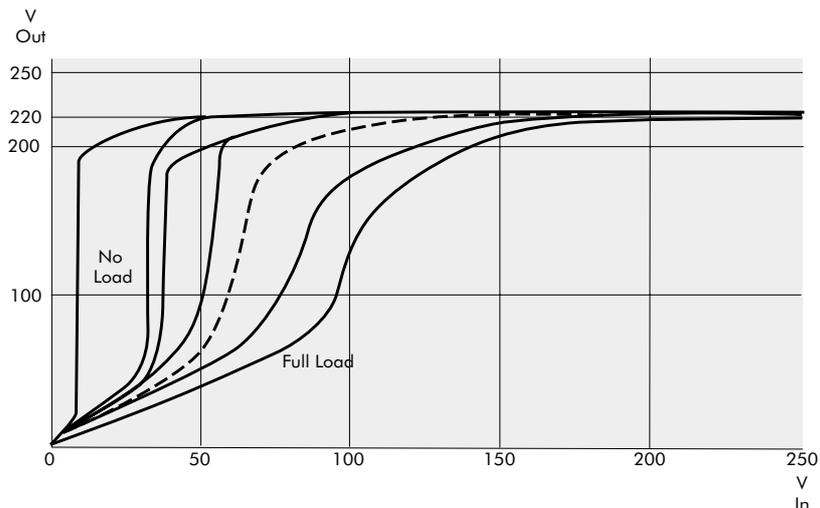

Figure 8 –CVT input/output characteristics
As the input voltage is increased, the flux in the central part of the transformer core also increases until the inductive reactance of the secondary winding is equal to the capacitor reactance. At this point, the output voltage is high due to the resonance of the circuit even though the input voltage is quite low (Figure 8). The neutralising winding reduces the output distortion from about 20 % to less than 3 %.
- ◆ The ability at low loads to have an exceptionally wide input range. At 25 % load the output is maintained to  $\pm 5\%$ , even when the input voltage is only 35 % of nominal voltage, (Figure 8).